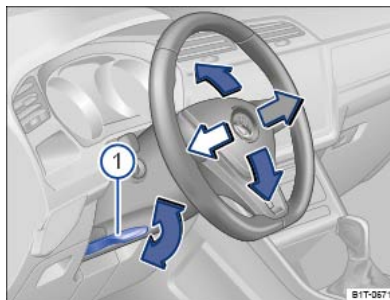

Fig. 77 Below the steering wheel in the steering column trim: lever for mechanical adjustment of the steering wheel position.
- Push down the lever ⇒ *Fig. 77 ①*.
- After adjusting the steering column, always move lever ⇒ Fig. 77 up so that it engages securely. This prevents the steering column from moving spontaneously while the vehicle is in motion.